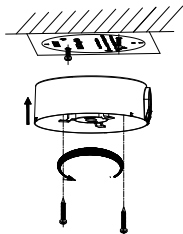

Figure 2-45 Fix the Junction Box
4. Insert four PM4×10 screws into the ceiling and fix the base plate, as shown in Figure 2-45. Make sure the FRONT arrow of the base plate is of the same direction as the arrow of the drill template.